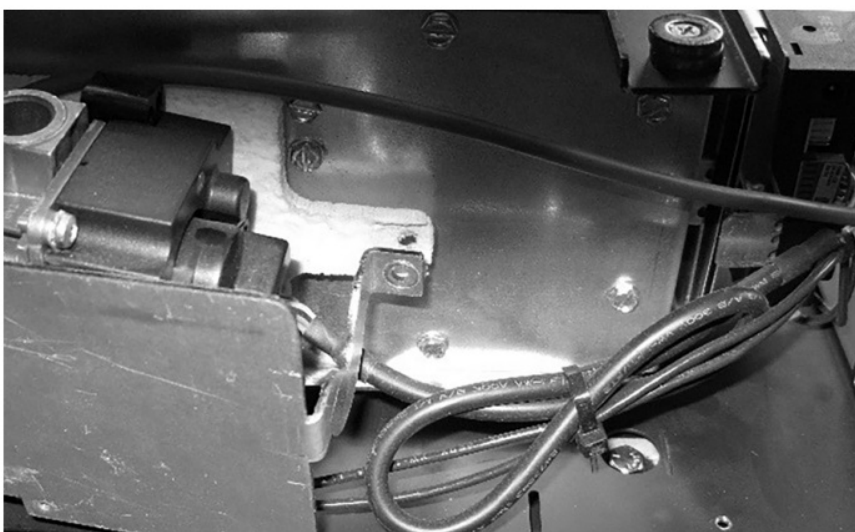

Figure 3
3. The valve bracket is still secured by a third screw, without removing this screw, the valve bracket and valve can be pulled down approximately $\frac{1}{2}$ " (12mm) as shown in Figure 3